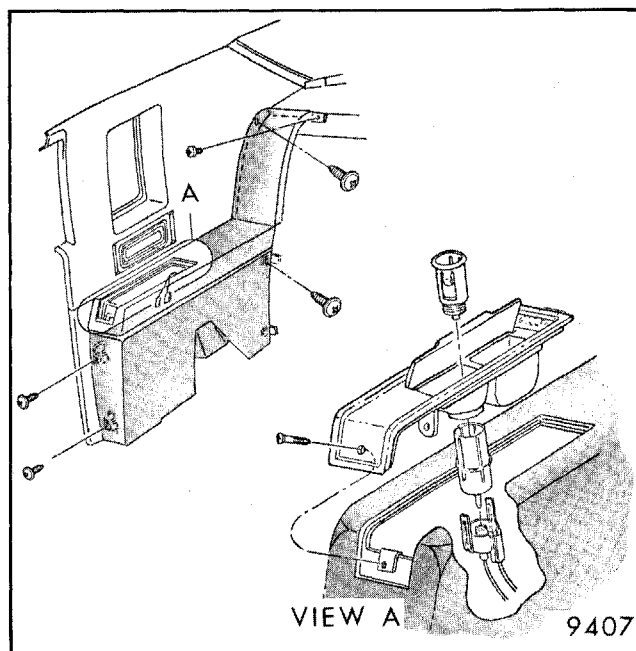

Fig. 6-1-Quarter Lower Trim Assembly Attachment - Oldsmobile E Style Shown, Cadillac E Similar
The Oldsmobile and Cadillac E styles are equipped with floor-mounted type armrests. The armrests extend from arm position to floor and from body lock pillar to rear seat back panel (Fig. 6-1).
3. Remove attaching screw (one on Cadillac E, three on Oldsmobile E) at upper rear of armrest (Fig. 6-1).
4. Remove one screw securing armrest/cigar lighter cover plate, lift cover plate and detach electrical wiring, then remove trim assembly (view A, Fig. 6-1).